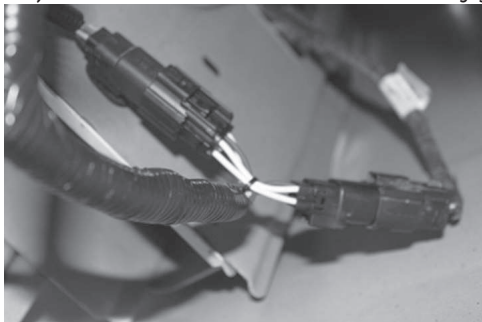

Figure 2
3. Starting on driver's side position RV harness connectors ends containing **Yellow** wires between separated vehicle harness connectors shown in **Figure 2**. Press connectors firmly into vehicle connectors until they lock into place and slide Red lock on factory connector. Pull on connectors to ensure locks are engaged.